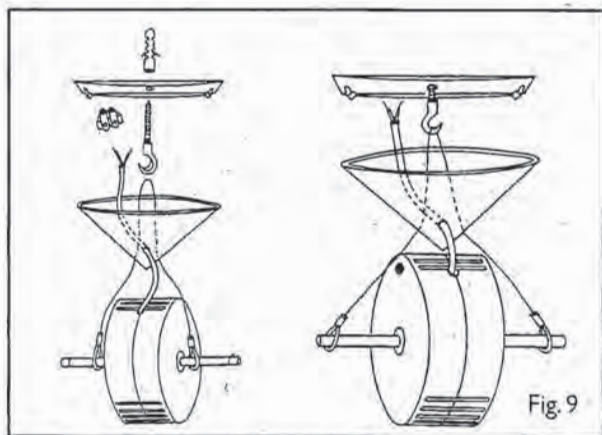

Fig. 9
3. Connect the lead up to the terminal on the ceiling outlet. Push the canopy upwards to snap onto the ceiling plate (Fig. 9).